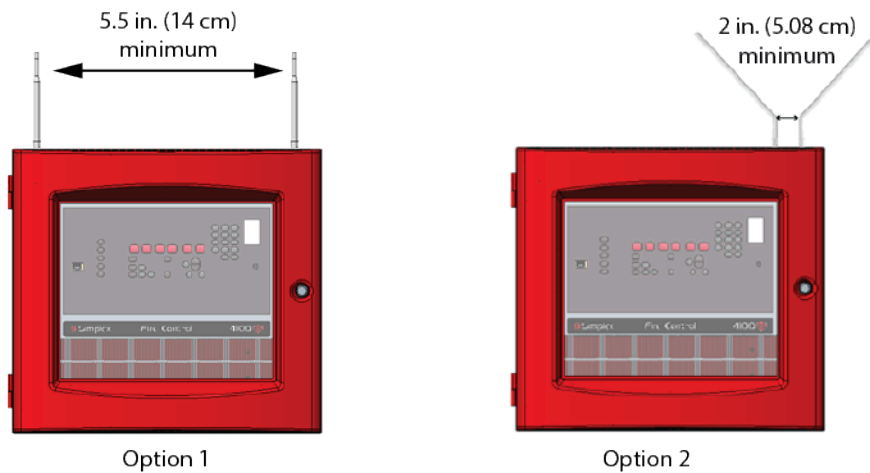

Figure 5: Primary and secondary antennae mounting example
- Mount the secondary antenna vertically at least 5.5 in. (14 cm) away from the primary antenna and other antennae. Alternatively, mount the antennae at least 2 in. (5.08 cm) from each other and bend the knuckles of the antennae 45° away from the each other to ensure that they are out of phase. See Figure 5.